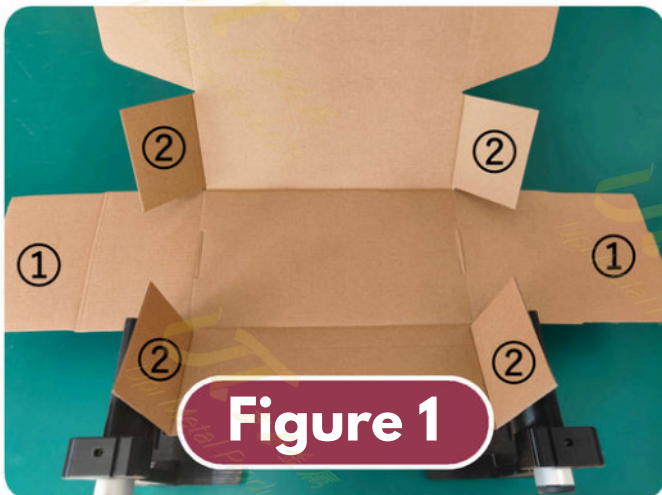
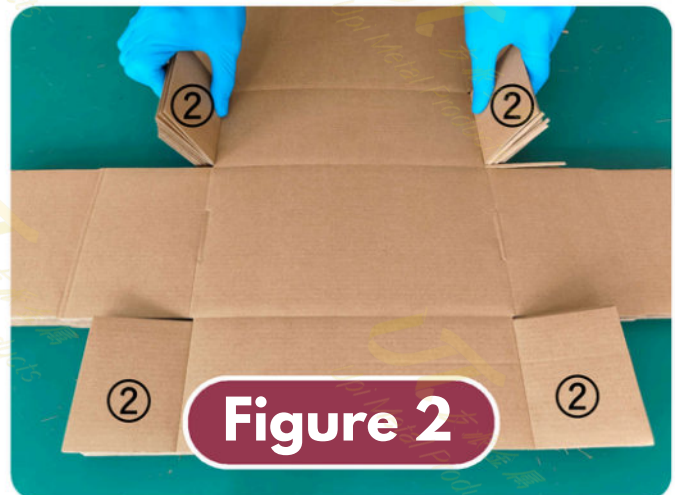

Figure 1
Figure 2
1. As shown in Figure 1, hold the side flaps ① of the die-cut box cardboard, align the edges tightly against the positioning blocks (refer to the arrow marks), and then pull the cardboard down until it reaches the state shown in Figure 2.
As shown in Figure 1, when the die-cut box is placed in the jig and you hold the side flaps ① of the die-cut box cardboard to pull it downward, the four folded corners ② will abut against the bottom surface, preventing the box from folding properly.
As shown in Figure 2, pre-fold the four folded corners ② in batches before using the jig.